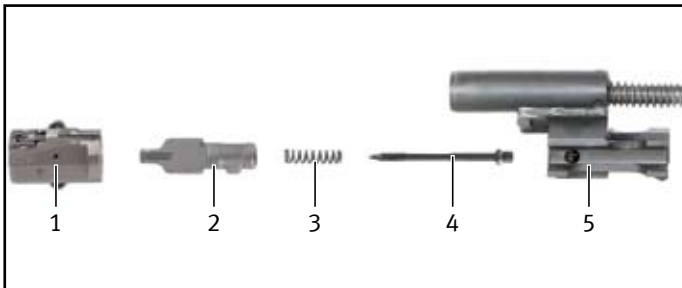

Fig. 39 – Assemble bolt group
1. Push pressure spring for firing pin onto firing pin (Fig. 39).
2. Place firing pin with pressure spring for firing pin into bolt head carrier (Fig. 39).